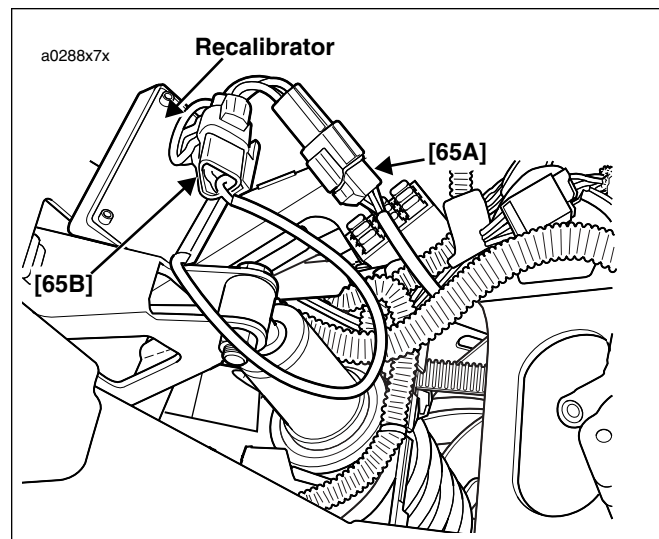

Figure 4. Connecting Recalibrator
3. See Figure 4. Plug recalibrator into [65A] and [65B].